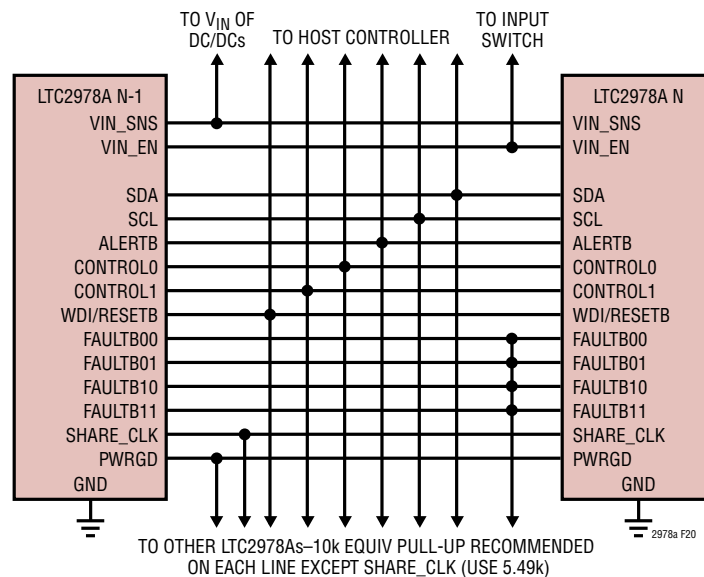
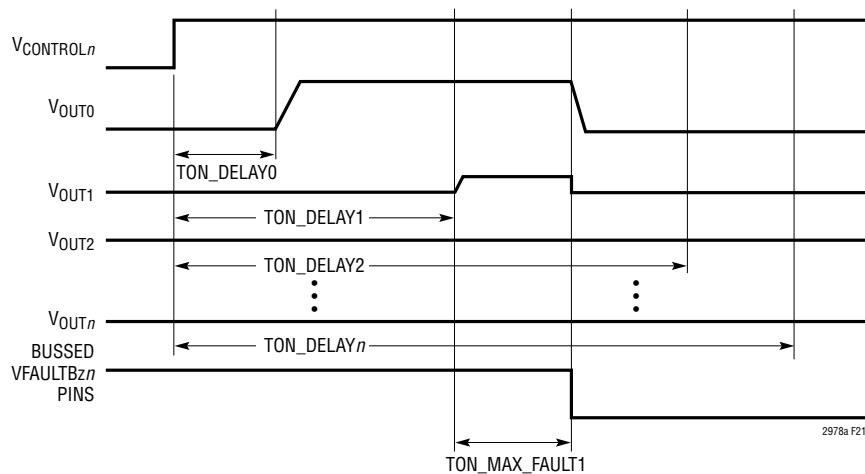

Figure 20. Typical Connections Between Multiple LTC2978As
Figure 21. Aborted On Sequence Due to Channel 1 Short
- The FAULTBzn lines can be connected together to create fault dependencies. Figure 20 shows a configuration where a fault on any FAULTBzn will pull all others low. This is useful for arrays where it is desired to abort a start-up sequence in the event any channel does not come up (see Figure 21).
- Figure 20 shows how to interconnect the pins in a typical multi-LTC2978A array.
- PWRGD reflects the status of the outputs that are mapped to it by the MFR\_PWRGD\_EN command. Figure 20 shows all the PWRGD pins connected together, but any combination may be used. Note that the latency of the PWRGD pin response may be in the range of 30ms to 185ms depending on ADC MUX settings. See Electrical Characteristics Table Note 4.